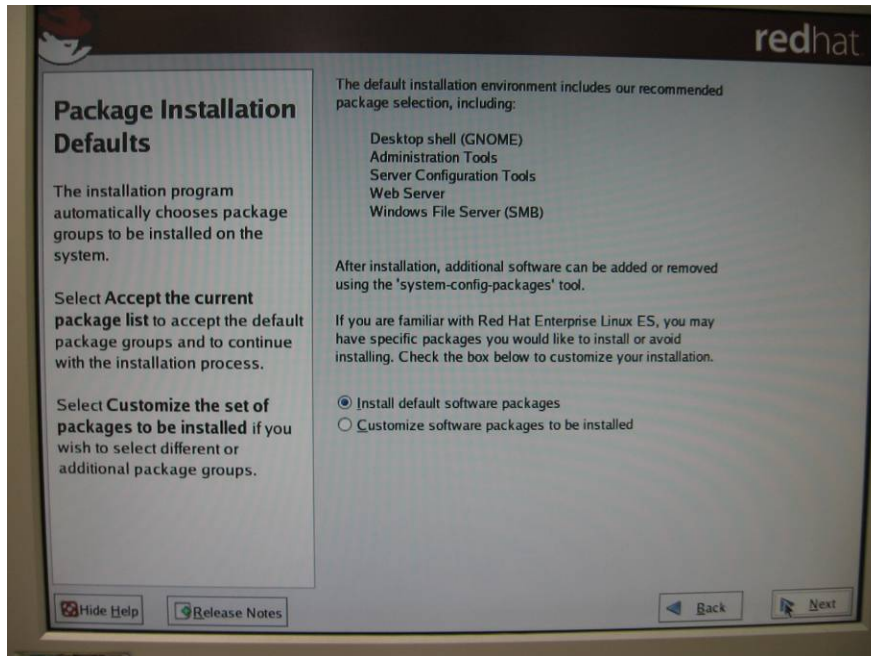

Figure 5-19 Package Installation Defaults
8. No changes for System Acoustic and Performance Configuration. (Figure 5-19)